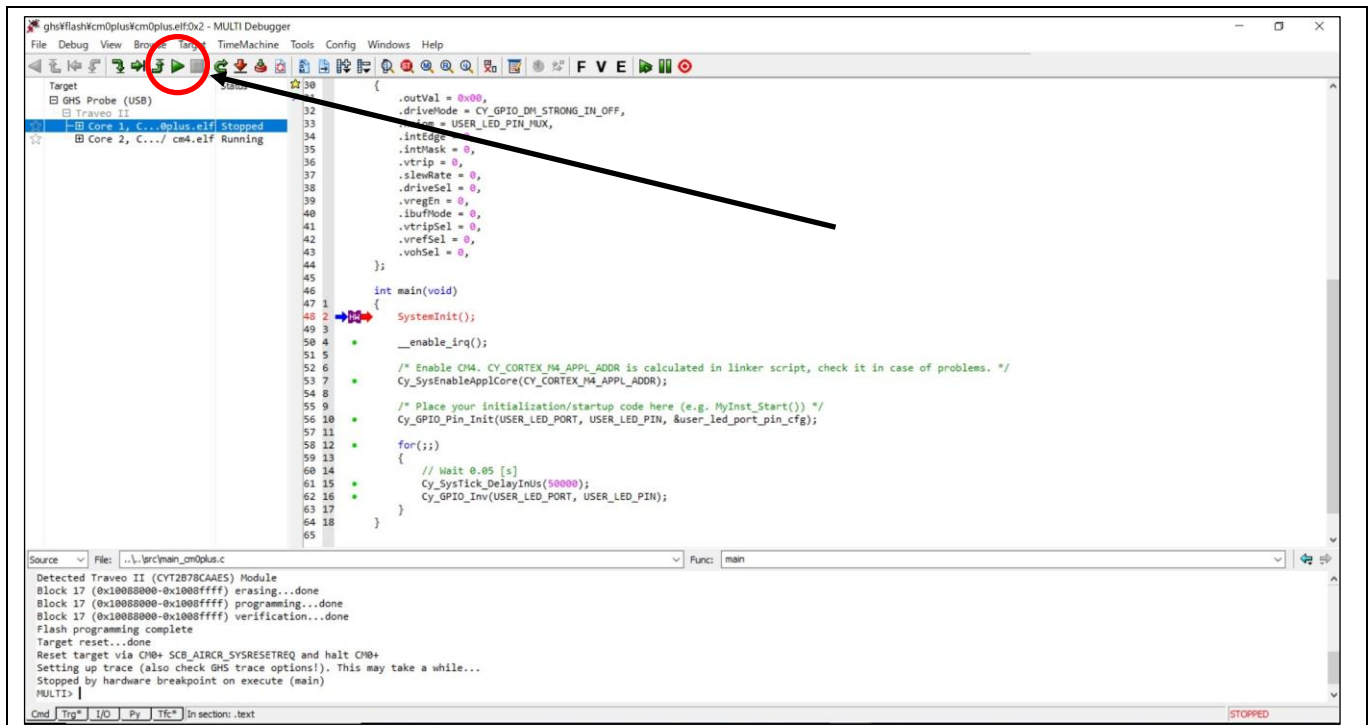

Figure 18 Execution on Flash Memory
4. Click the **run** icon as shown in **Figure 18**.